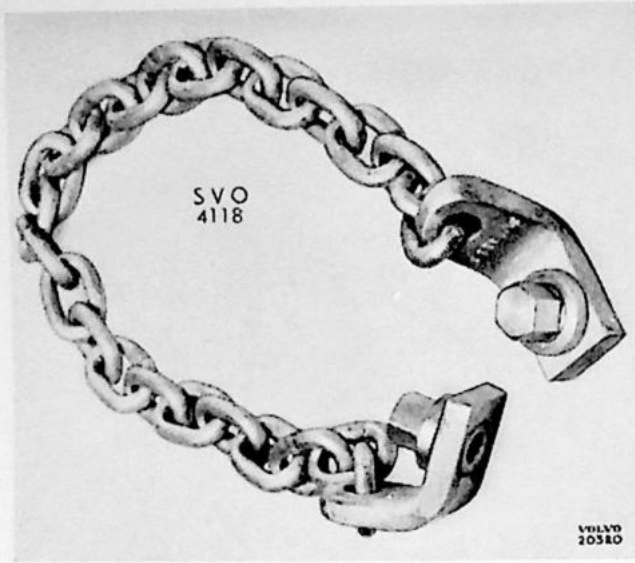

Fig. 113. Lifting chain.
- SVO 4118 Lifting chain for engine with cylinder head remaining (Fig. 113)
- SVO 4124 Spacers for engine support, (2)
- SVO 4125 Cylinder protectors, (4)